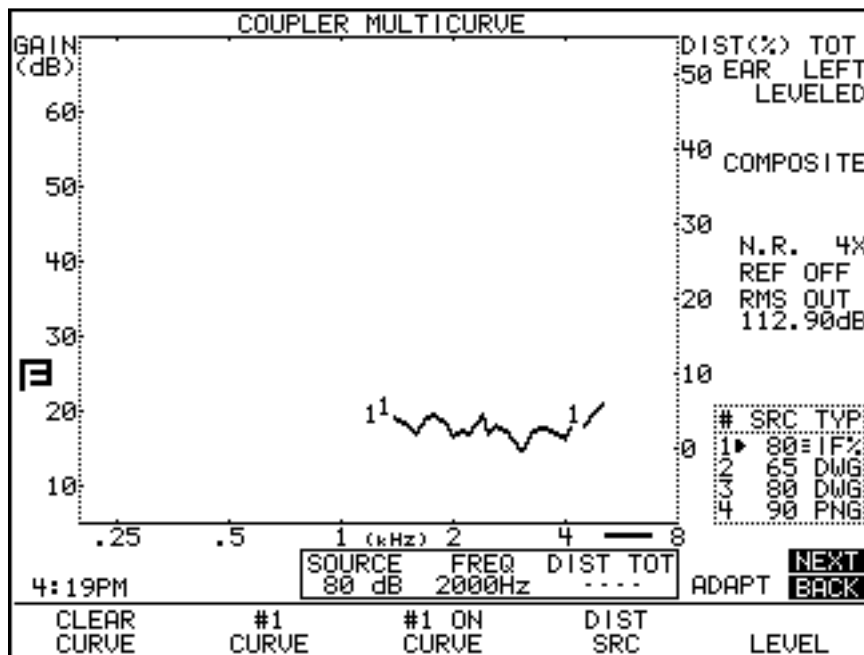

Figure 2.2.5—IM distortion measurement
13. Press [START/STOP] again to perform the IM distortion sweep. The test will stop automatically when it is finished. See Figure 2.2.5.